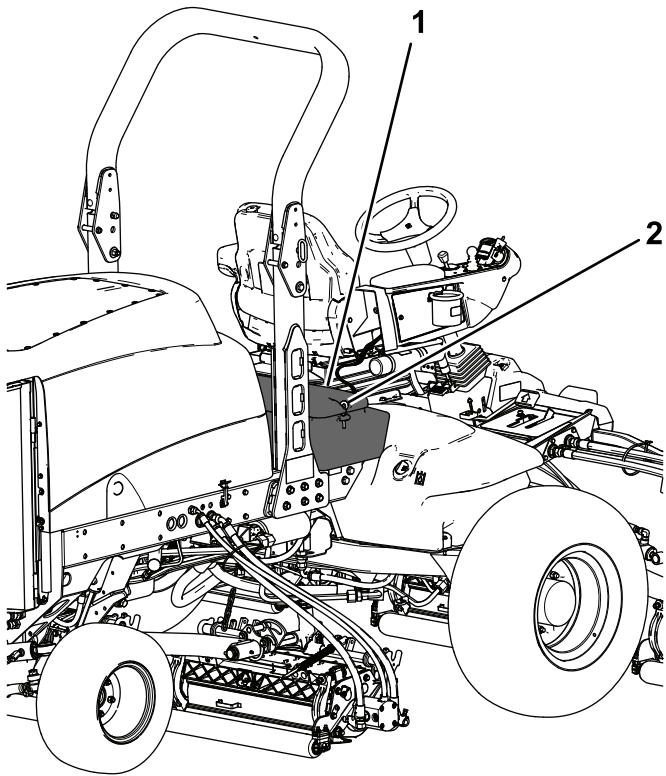

Figure 85
2. Unlatch and raise the operator's console panel (Figure 85).